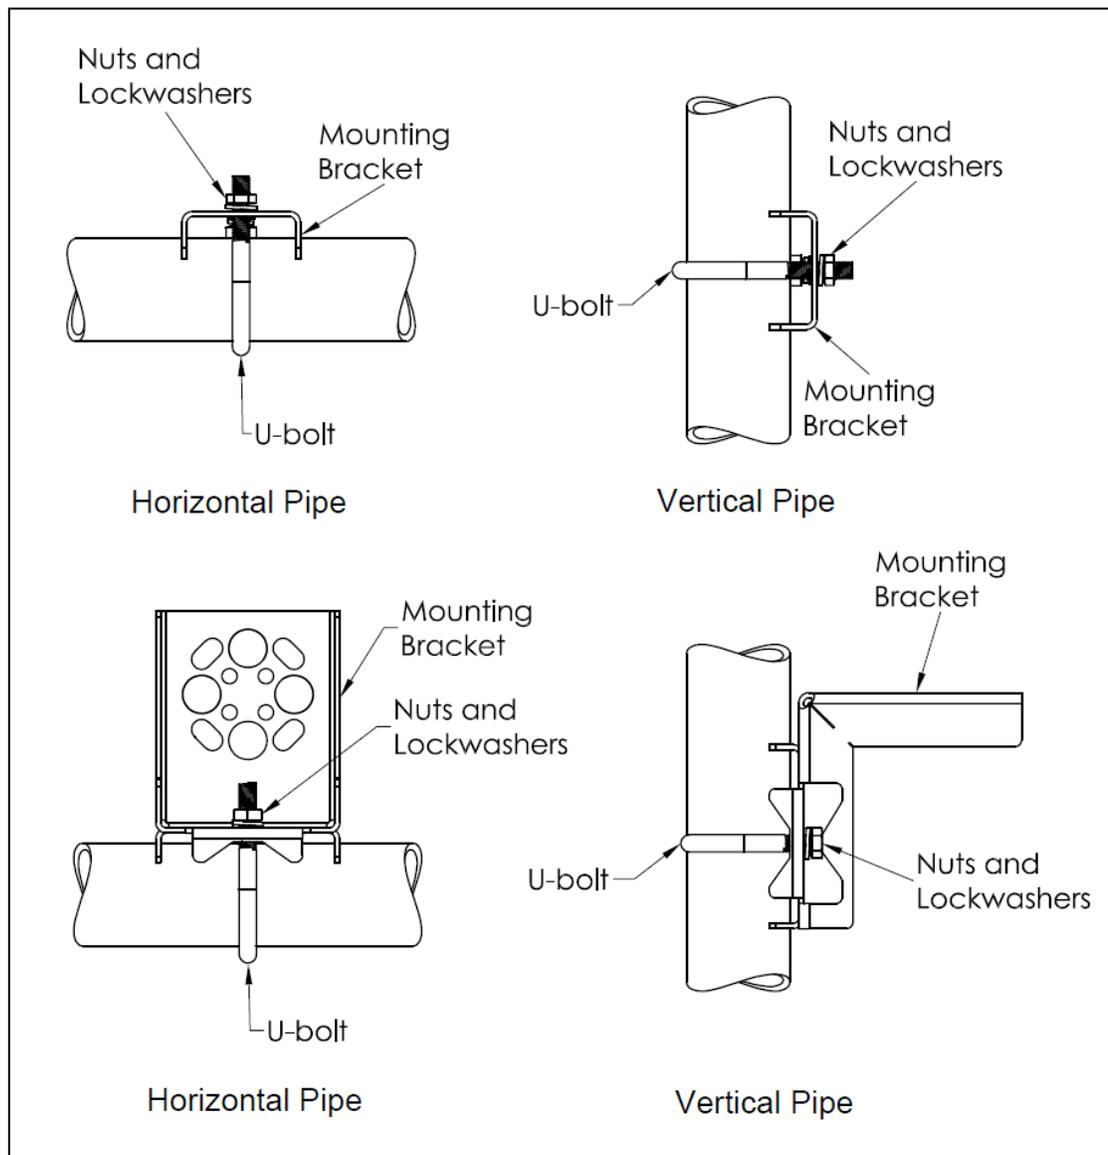

Figure 3-5: Pipe Mounting Bracket Secured to a Horizontal or Vertical Pipe
1. Align the two mounting holes in the transmitter with the two slots in the mounting bracket and assemble the (2) M8 hex cap screws, (2) lockwashers and (2) flat washers provided. Rotate transmitter assembly to the desired position and torque the M8 hex cap screws to 27,0 Nm/20,0 Lb-ft maximum.
2. Pipe Mount Option: Refer to Figure 3-5. Position the bracket on a 2-inch (50.8 mm) horizontal or vertical pipe, and install a “U” bolt around the pipe and through the holes in the bracket. Secure the bracket with the nuts, flat washers and lock washers provided.